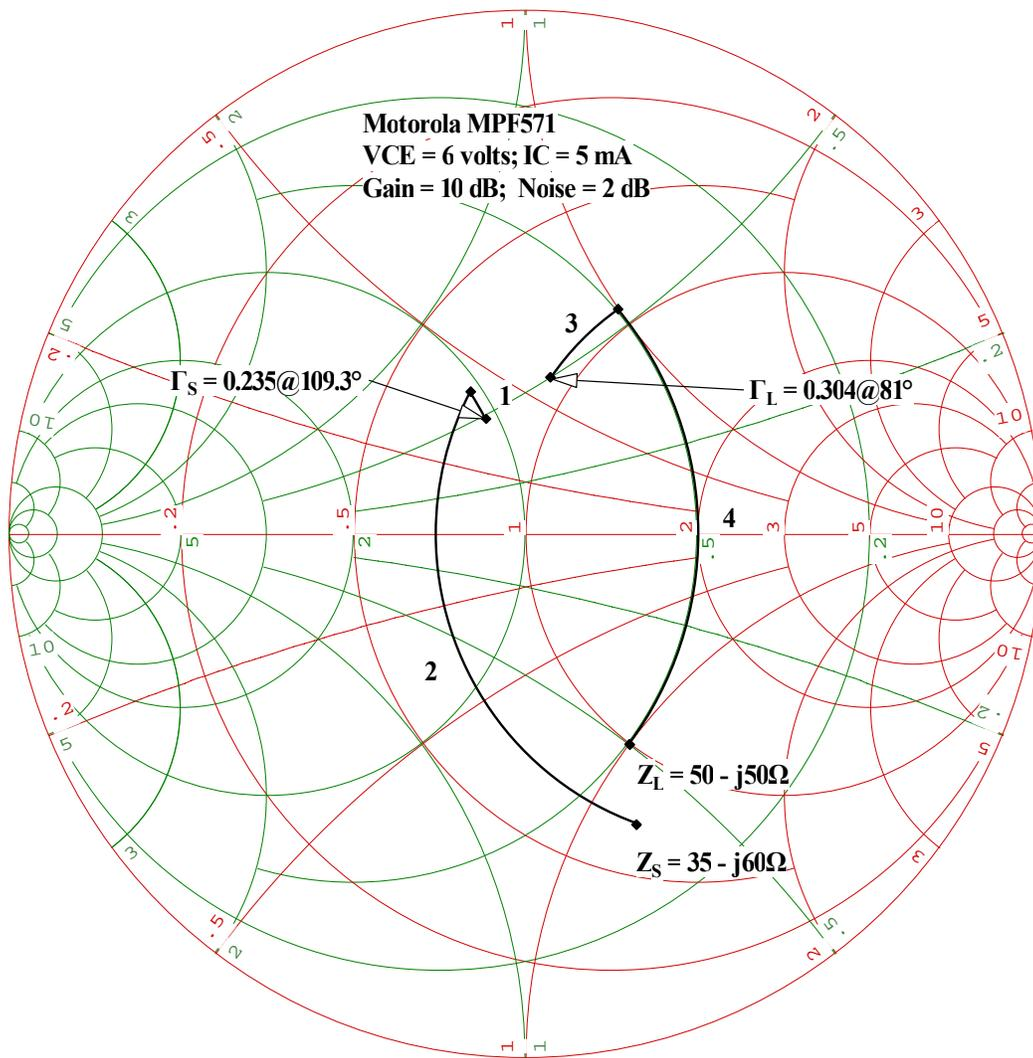
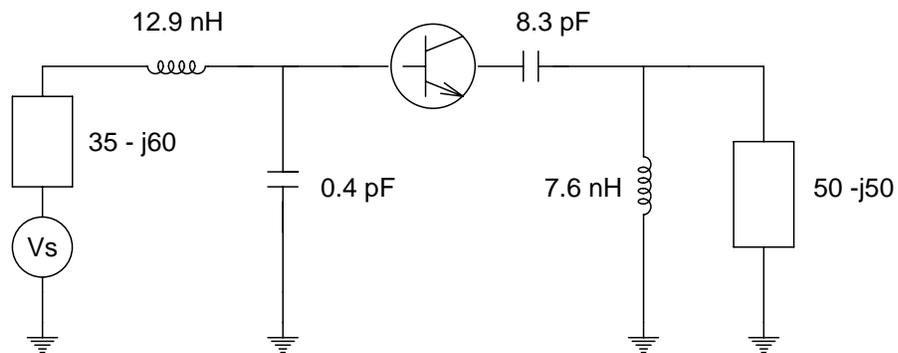

Figure 3.5b
Figure 3.5c
- Using the above reflection coefficients, the impedance matching plot is shown in Figure 3.5b and the circuit is shown in Figure 3.5c